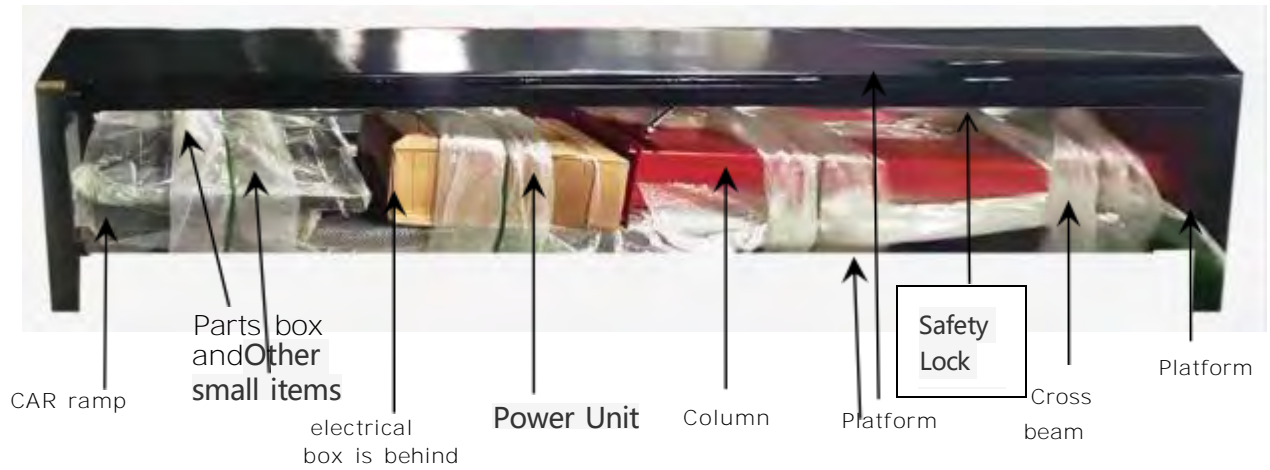

Fig.5(Note: Parts may be located in different parts in different batches)
2. Open the outer packing carefully(See Fig. 5) .